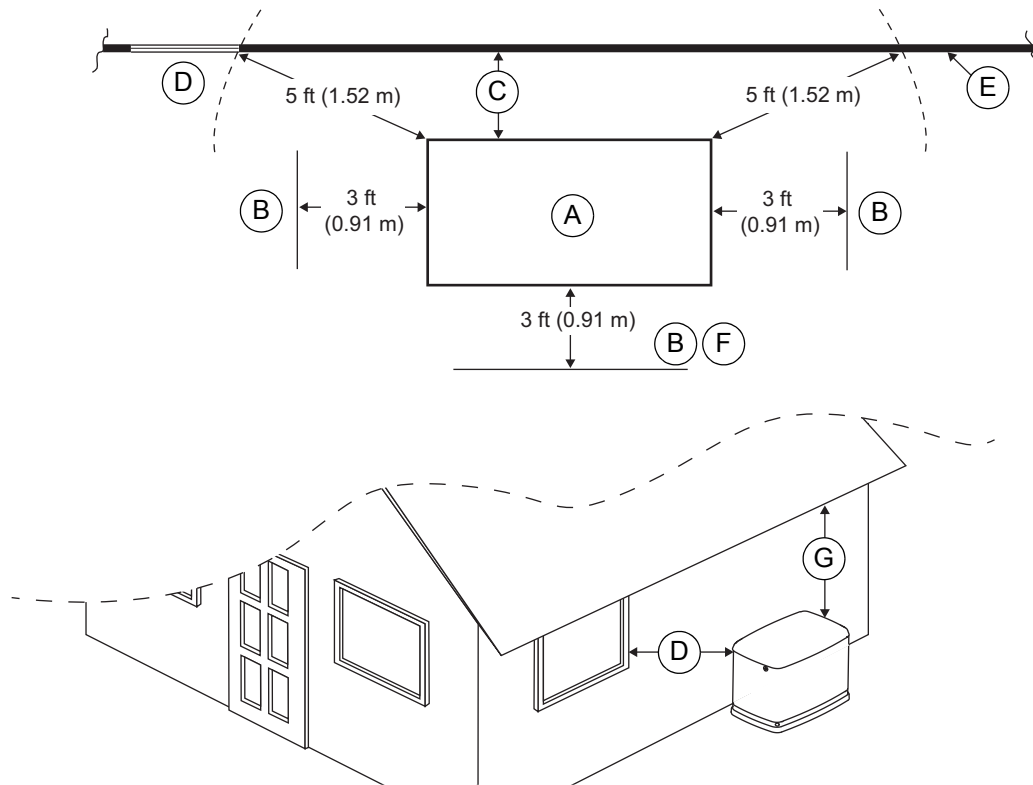

Figure 3-1. Installation Clearances
Install the generator set, in its protective enclosure, outdoors where adequate cooling and ventilating air is always available (**Figure 3-1**). Consider these factors:
NFPA 37 is the The National Fire Protection Association's standard for the installation and use of stationary combustion engines. Its requirements limit the spacing of an enclosed generator set from a structure or wall (**Figure 3-1**).
NOTE: Southwest Research Institute testing approves 18 in (457 mm) installation minimum from structure (**Figure 3-1**, C). Southwest Research Institute is a nationally recognized third party testing and listing agency.
Based on this testing and the requirements of NFPA 37, Sec 4.1.4, the guidelines for installation of the generators listed above are changed to 18 in (457 mm) from the back side of the generator to a stationary wall or building (C). For adequate maintenance and airflow clearance, the area above the generator should be at least 5 ft (1.52 m) with a minimum of 3 ft (0.91 m) at the front and ends of the enclosure. This includes trees, shrubs, and bushes. Vegetation not in compliance with these clearance parameters could obstruct air flow. In addition, exhaust fumes from the generator could inhibit plant growth. See Figure 3-1 and the installation drawing within the owner's manual for details.